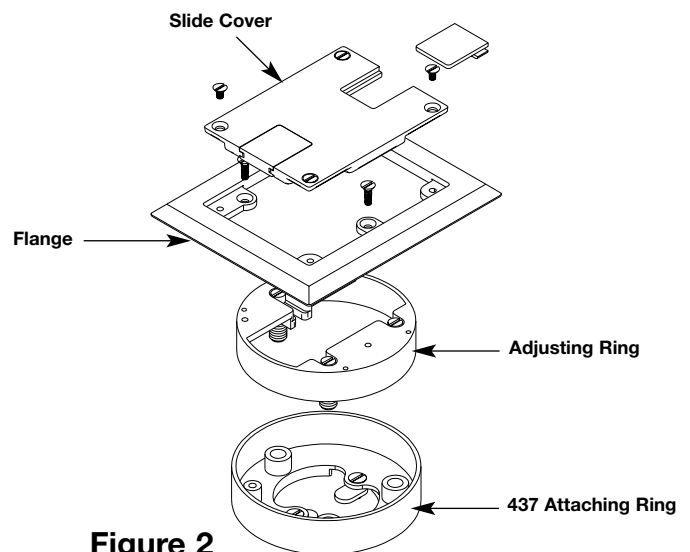

Figure 2
10. **For S166B:** Attach slide cover to flange with four #8 flat head brass screws (see Figure 2). Remove cover and invert slides for cable egress and reattach.